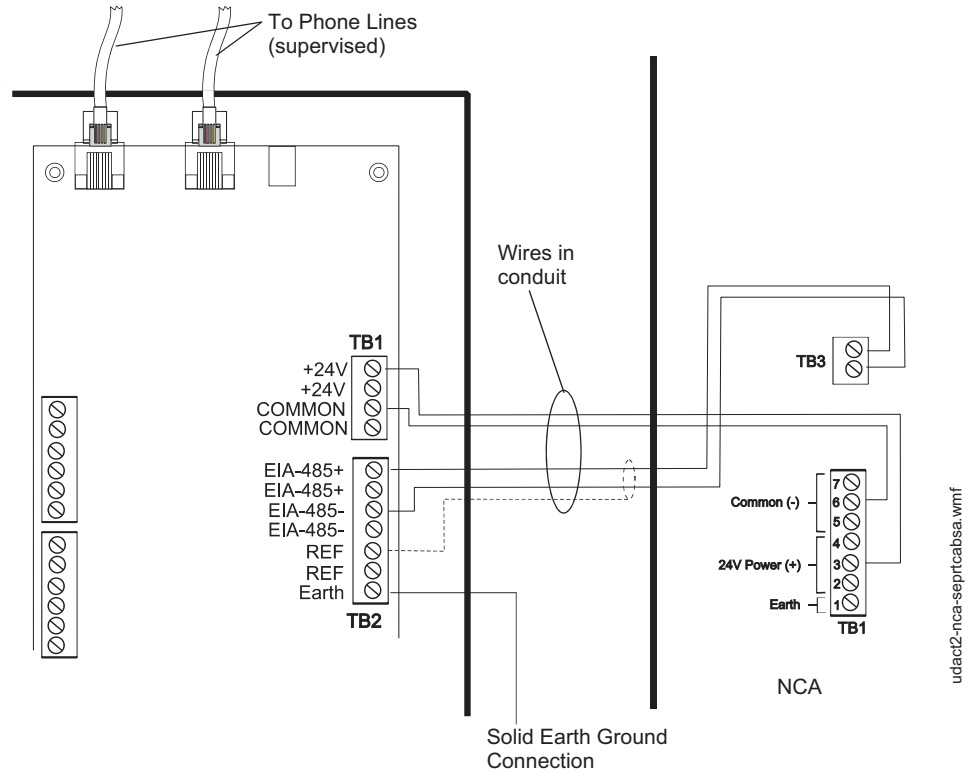

Figure A.8 UDACT-2 and NCA in Separate Cabinets
Refer to Figures A.8 through A.11.
1. Recommended wire is 12 AWG (3.25mm²) to 18 AWG (0.75mm²), twisted pair, shielded cable. Connect only one end of shield: a) shield may be connected to cabinet (earth ground) at fire alarm panel, or b) shield may be connected to TB1 Terminal 5 (Shield) at UDACT-2 as shown in Figure A.8.